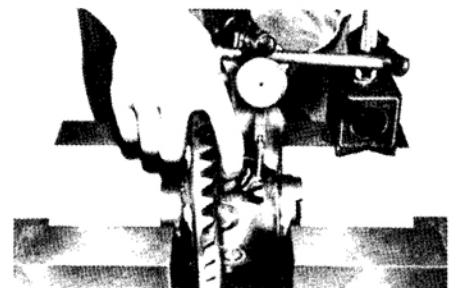

Fig. 82—Check backlash between spider gear and side gear using a dial indicator as shown. Refer to text.
Reassembly is reverse order of disassembly. Coat all parts with a thin film of a suitable lubricant during reassembly. Tighten cap screws securing bevel ring gear (2) to differential case (1) to 30-35 N·m (22-26 ft.-lbs.) torque. After reassembly, check backlash between spider gears (14) and side gears (10) using a dial indicator as shown in Fig. 82. Backlash should be 0.15-0.30 mm (0.006-0.012 inch) with an allowable limit of 0.4 mm (0.016 inch). If backlash is